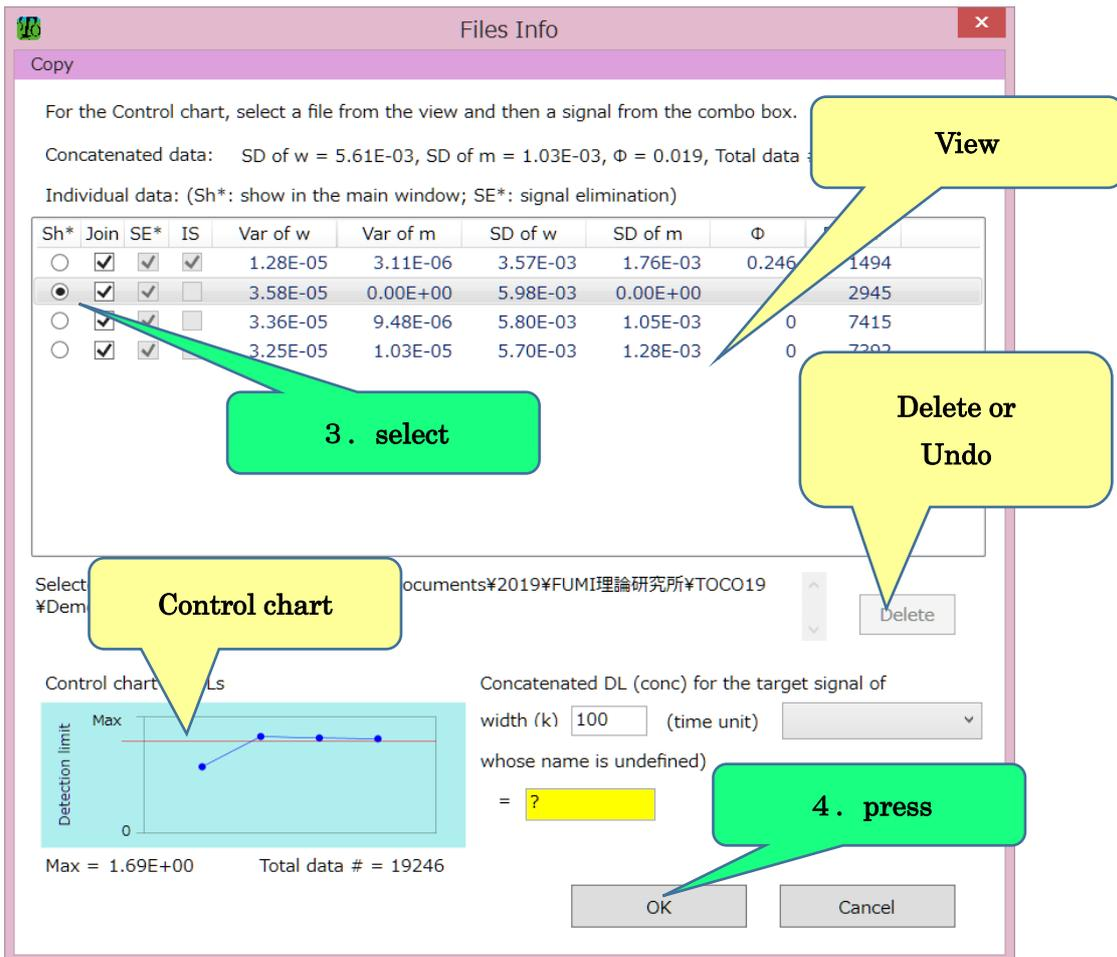

Figure 15 --- Files Info window
3. select a radio button (●) of the Sh\* column which contains the file you want to show in the main window (see Fig. 15);
In the Files Info window (see procedure 2 of 2.16), click a row of the desired file in the view, unselect its radio button (●) of Sh\* and uncheck its check box (☑) of Join, and the selected file will be deleted (see Fig. 15). Deletion will not be executed until the OK button is pressed. Click the Undo button to undo the deletion.